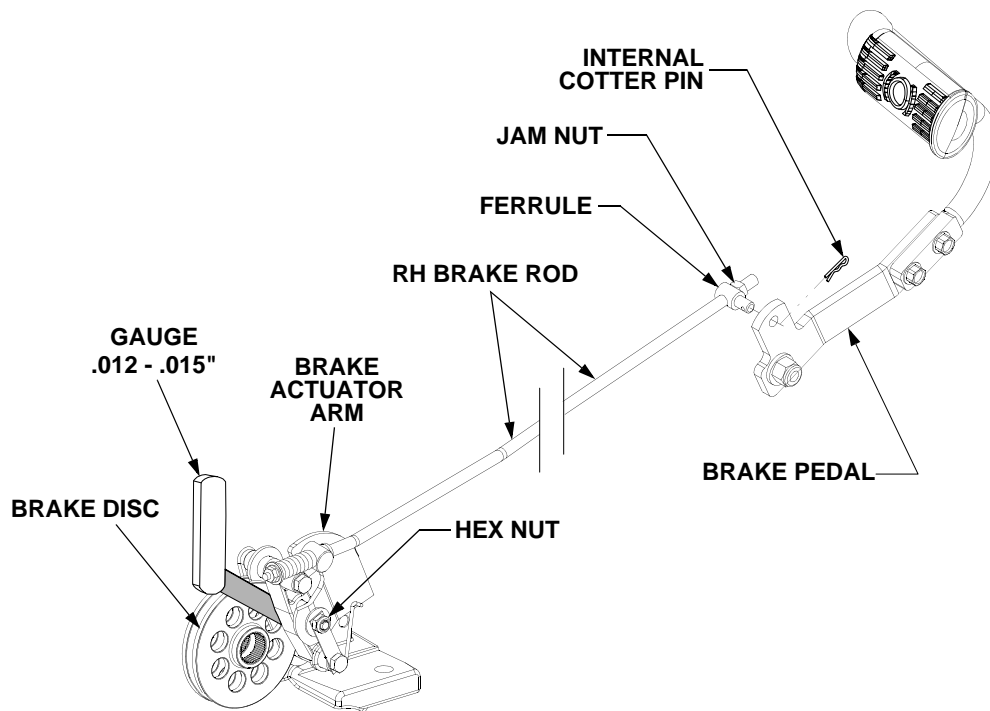

Figure 31
- From beneath the RH running board, remove the internal cotter pin to disengage the brake rod ferrule from the brake pedal. Position the brake rod to make certain there is no pull on the brake actuator arm. See Figure 31.
puck and the brake disc. The gap should measure between .012 and .015". See Figure 31.